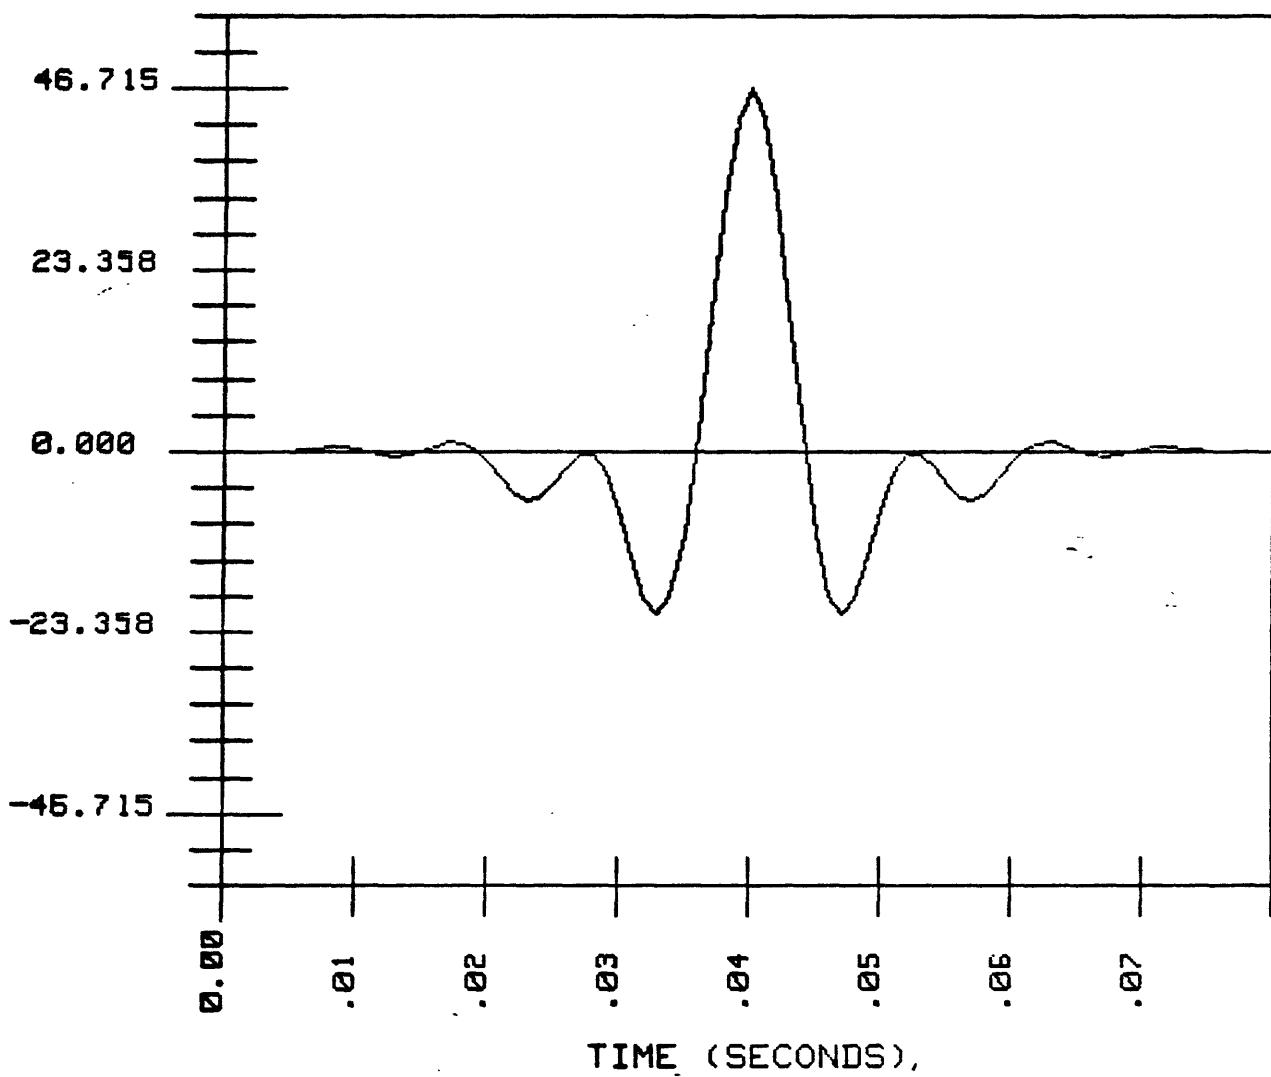

Figure 4A. Band-pass filter operator in time domain.
- V. Band-pass filter.--SFK 4: The data entered in array A can be convolved with a zero phase band-pass filter. Parameters requested are number of samples in the filter, low cut-off frequency (-6dB point), and high cut-off frequency (-6dB point). The filter is generated and stored in array Gw. Array Gw is convolved with array A and the result is stored in array Filter. A time shift of $-1/2 \times (\text{length of array Gw})$ is applied to the array FILTER. Figure 4A-C shows the time- and frequency-domain representations of a typical band-pass filter.